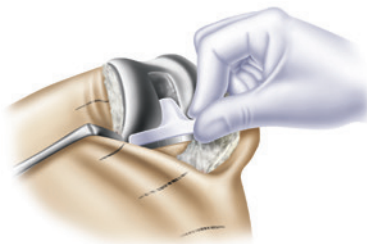

Figure 66
- 1 Flex the knee to 90° and push the insert as far back as it will go posteriorly with the knee in flexion (Figure 66).